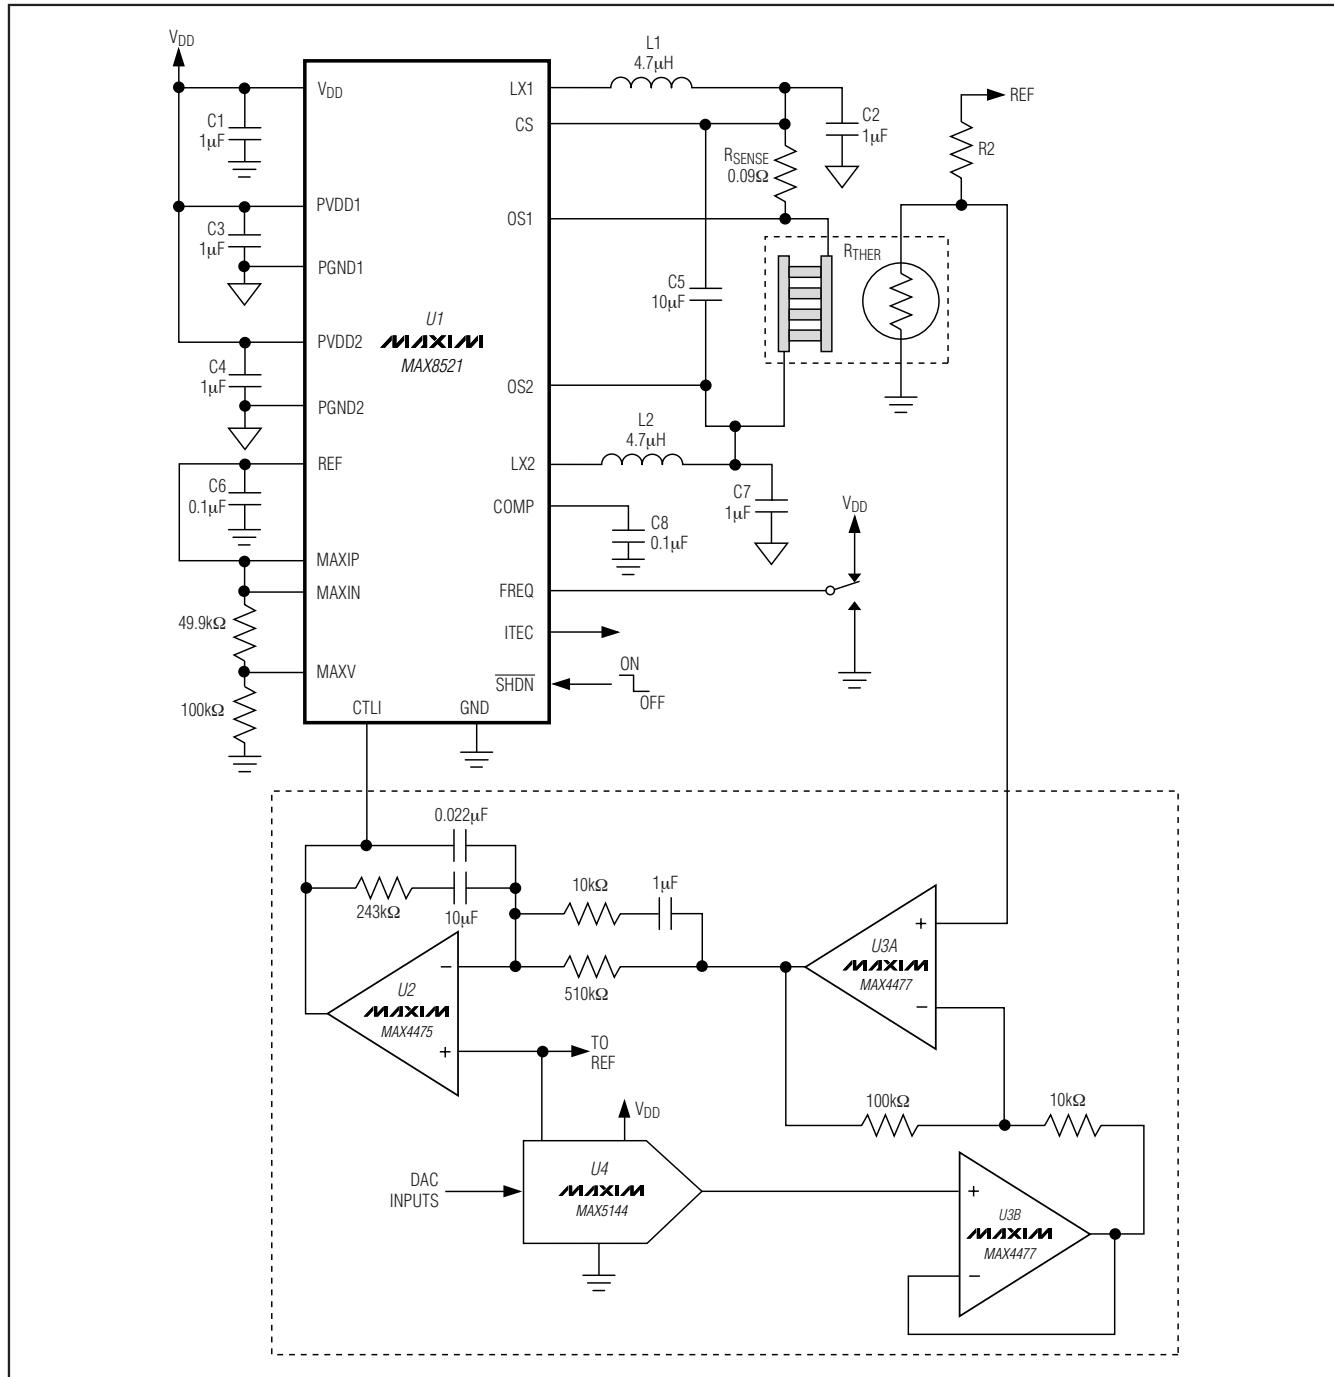

Figure 1. MAX8521 Typical Application Circuit
($V_{DD} = 5V$, circuit of Figure 1, $T_A = +25^\circ C$ unless otherwise noted.)
($V_{DD} = 5V$, circuit of Figure 1, $T_A = +25^\circ\text{C}$ unless otherwise noted.)
The MAX8520/MAX8521 TEC drivers consist of two switching buck regulators that operate together to directly control the TEC current. This configuration creates a differential voltage across the TEC, allowing bi-directional TEC current for controlled cooling and heating. Controlled cooling and heating allow accurate TEC temperature control to within 0.01°C. The voltage at CTLI directly sets the TEC current. An external thermal-control loop is typically used to drive CTLI. Figures 1 and 2 show examples of the thermal-control-loop circuit.
Table 1. TEC Connection for Figure 1
The MAX8520/MAX8521 include an on-chip voltage reference. The 1.50V reference is accurate to 1% over temperature. Bypass REF with 0.1μF to GND. REF can be used to bias an external thermistor for temperature sensing as shown in Figures 1 and 2.
The common-mode filter capacitors (C2 and C7 of Figure 1) are used as filter capacitors to ground for each output. The output ripple voltage depends on the capacitance, the ESR of these capacitors, and the inductor ripple current. Ceramic capacitors are recommended for their low ESR and impedance at high frequency.
The differential-mode filter capacitor (C_5 in Figure 1) is used to bypass differential ripple current through the TEC as the result of unequal duty cycle of each output. This happens when the TEC current is not at zero. As TEC current increases from zero, both outputs move away from the 50% duty-cycle point complementarily. The common-mode ripple decreases, but the differential ripple does not cancel perfectly, and there will be a resulting differential ripple. The maximum value happens when one output is at 75% duty cycle and the other is at 25% duty cycle. At this operating point, the differential ripple is equal to $1/2$ of the maximum common-mode ripple. The TEC ripple current determines the TEC performance, because the maximum temperature differential that can be created between the terminals of the TEC depends on the ratio of ripple current and DC current. The lower the ripple current, the closer to the ideal maximum. The differential-mode capacitor provides a low-impedance path for the ripple current to flow, so that the TEC ripple current is greatly reduced. The TEC ripple current then can be calculated as follows:
There are numerous ways to implement the thermal loop. Figures 1 and 2 show designs that employ precision op amps, along with a DAC or potentiometer to set the control temperature. The loop can also be implemented digitally, using a precision A/D to read the thermistor or other temperature sensor, a microcontroller to implement the control algorithm, and a DAC (or filtered-PWM signal) to send the appropriate signal to the MAX8520/MAX8521 CTLI input. Regardless of the form taken by the thermal-control circuitry, all designs are similar in that they read temperature, compare it to a set-point signal, and then send an error-correcting signal to the MAX8520/MAX8521 that moves the temperature in the appropriate direction.
6) To ensure high DC-loop gain and minimum loop error, keep the board layout adjacent to the negative input pin of the integrator (U2 in Figure1) clean and free of moisture. Any contamination or leakage current into this node can act to lower the DC gain of the integrator which can degrade the accuracy of the thermal loop. If space is available, it can also be helpful to surround the negative input node of the integrator with a grounded guard ring.